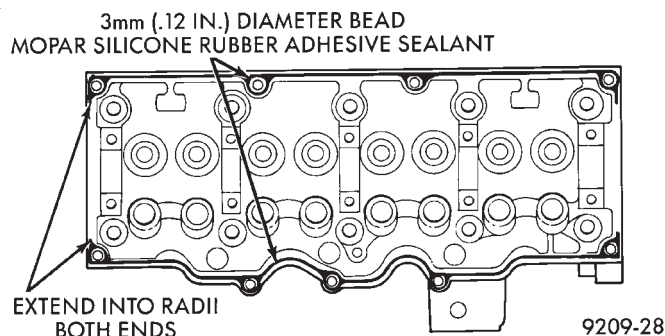

Fig. 3 Cylinder Head Valve Cover Rail Sealing
- (1) Install new end seals on valve cover.
- (2) Apply form-in-place Mopar Silicone Rubber Adhesive Sealant or equivalent gasket material to cylinder head cover rail (Fig. 3). Refer to procedure detailed in form-in-place gasket section of Standard Service Procedures, in this Group.